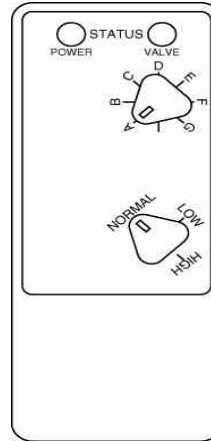

Figure 4
Timer Module: The timer module (Fig. 4) turns on and off the water solenoid valve at an adjustable on/off cycle to maintain a balance between the inlet water and the discharged chlorine solution. The timer has two controls -- one to adjust the **ON** time to: 11 seconds = Normal, 22 seconds = Low, and 30 seconds = High; and the second to adjust the **DELAY** time in seconds (i.e., A = 19 secs to G = 53 minutes).
2. Verify that the Power transformer is plugged into a wall receptacle that has been tested to verify that power is present. Verify timer module power light is on (see Fig. 4).